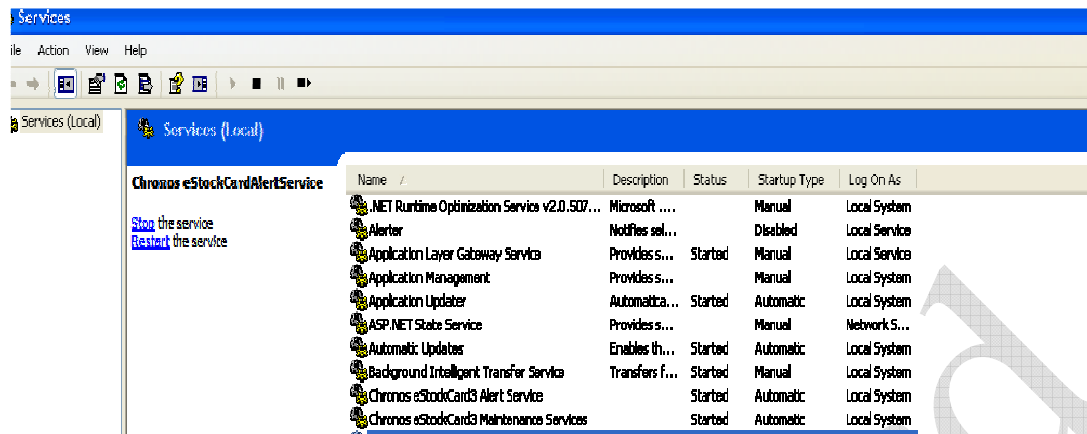

Fig. 59
Step 1 Launch Start > Control Panel > Administrative Tools > Services (Fig. 59)